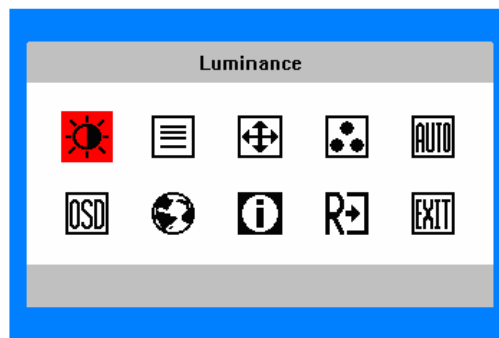

Figure 5 The OSD Message
1. Press the MENU-button to activate the OSD window (Figure 5).